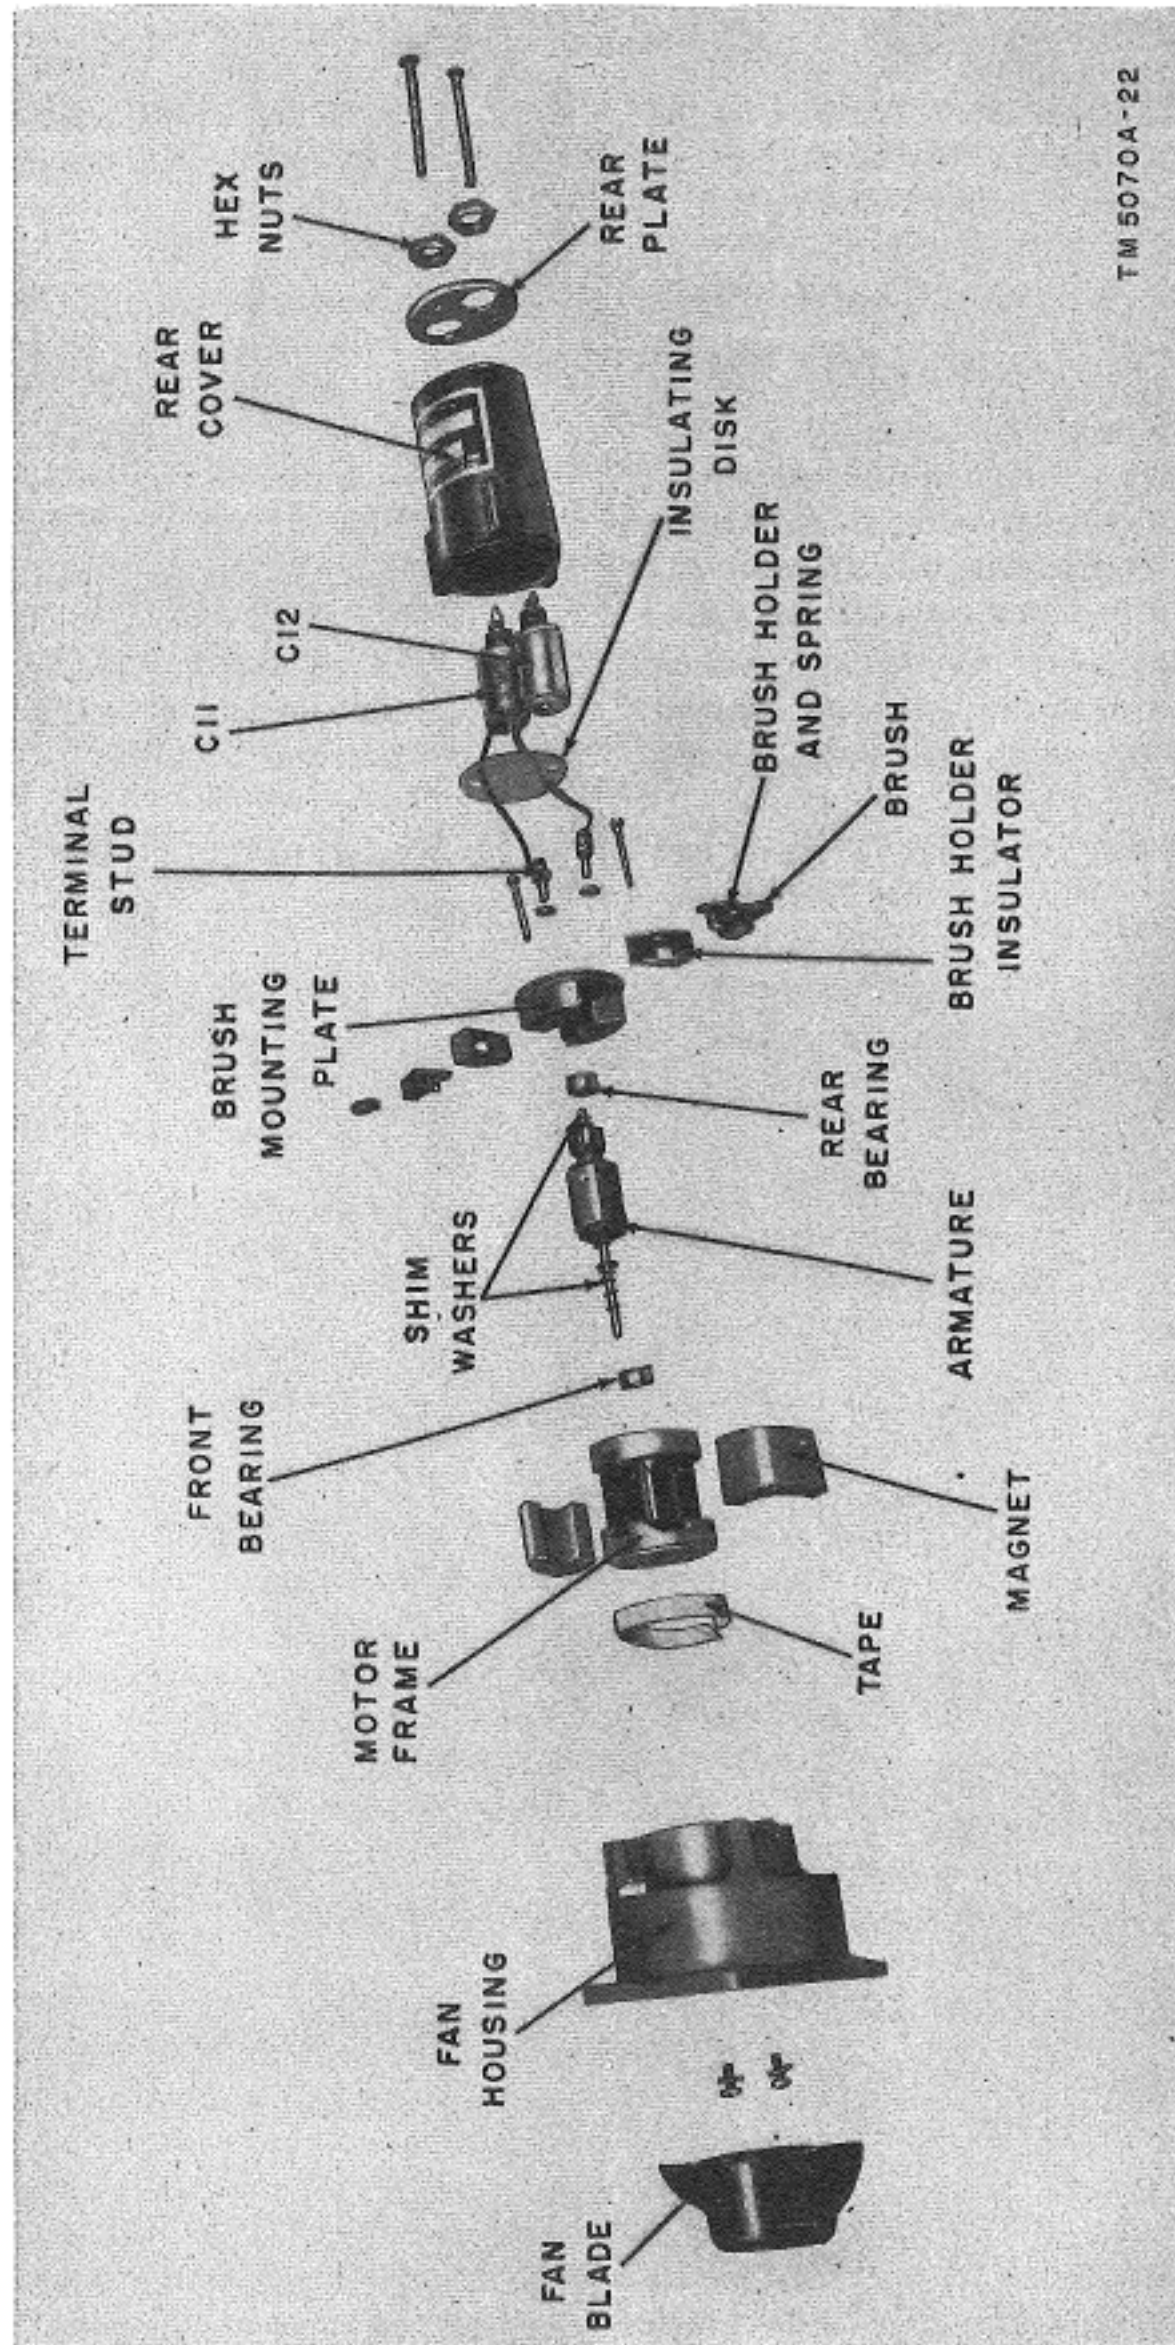

Figure 30. Blower, exploded view.
d. *Replacement of Parts in Blower.* The parts that make up the blower are shown in an exploded view in figure 30. Completely disconnect the blower from the unit before attempting disassembly.
- (1) *Disassembly of blower.*